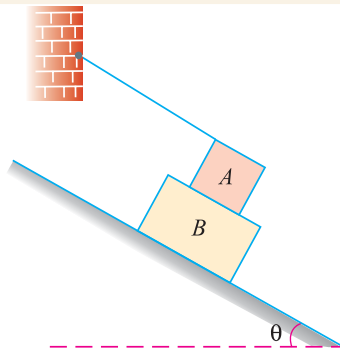

Fig. 8.25.
2. Two blocks A and B of weight 100 N and 300 N respectively are resting on a rough inclined plane as shown in Fig. 8.25.